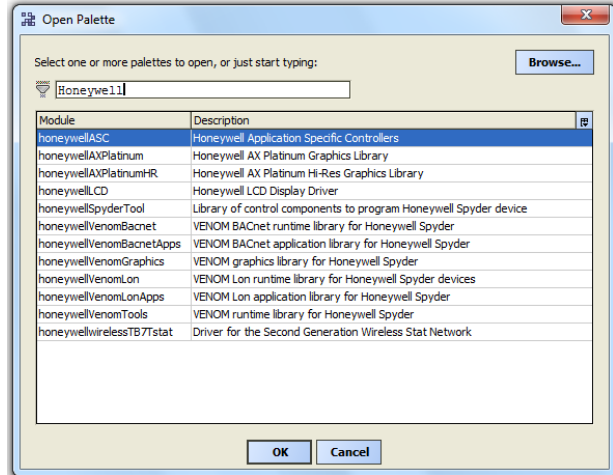

Figure 26: Adding ‘honeywellASC’ to BACnet network
- An ‘Open Palette’ window will open. Find a module named ‘honeywellASC’ as shown in Figure 26, Select it and click ‘OK’ button to add into the Palette.
- Adding ‘honeywellASC’ gets reflected in the ‘Palette’ tab named ‘AscBACnetVAV’ as seen in Figure 26.